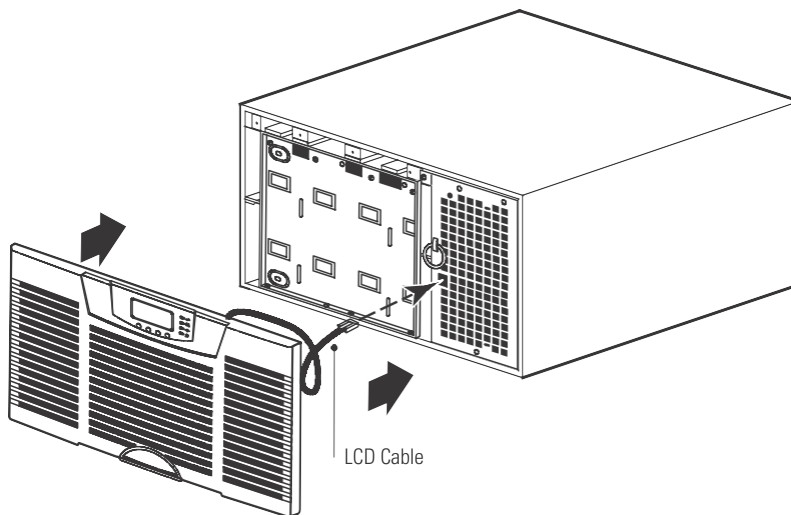

Figure 29. Installing the UPS Front Cover
7. Install the UPS front cover (see Figure 29):